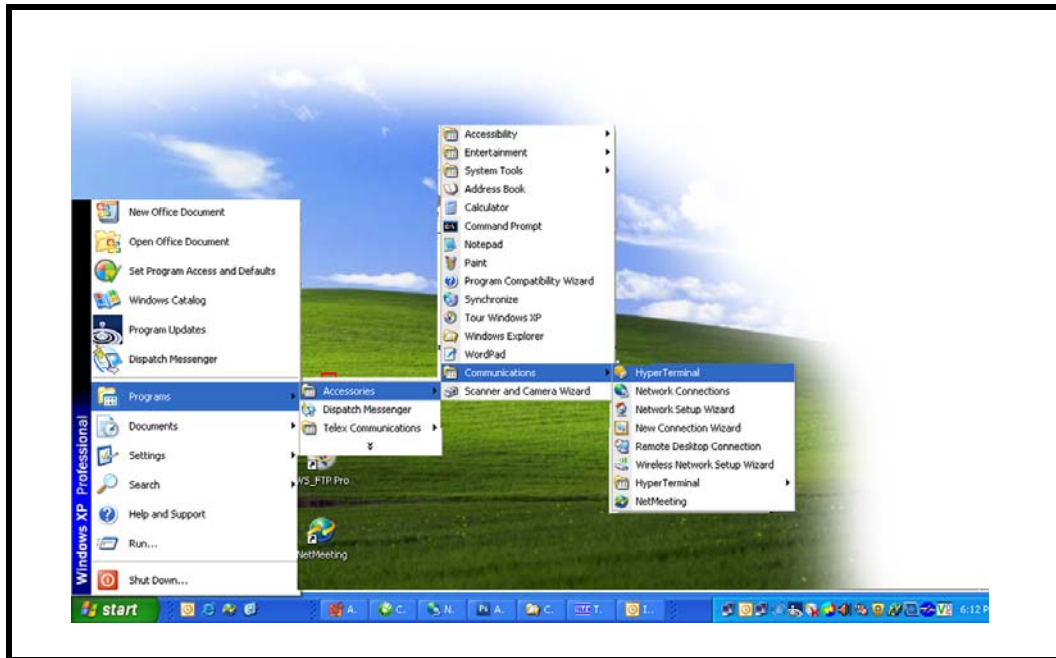

FIGURE 84. HyperTerminal Navigation
2. From the Start menu on the computer, open the HyperTerminal Application, see Figure 84.